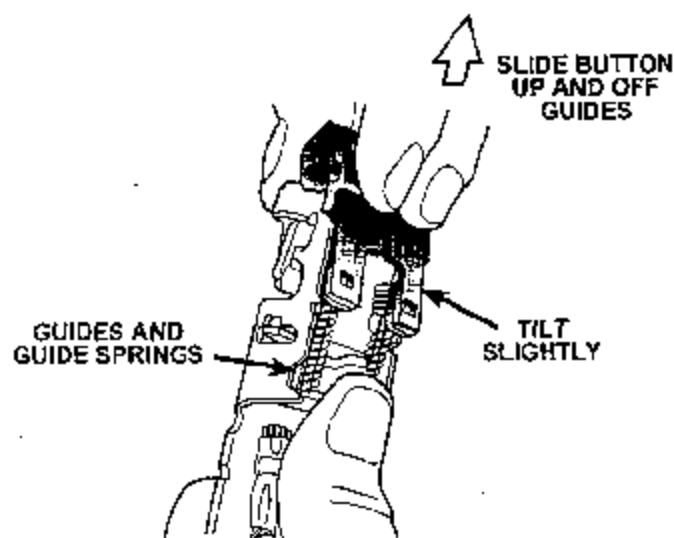

FIGURE 5
10. Tilt the lower part of the release button slightly away from the buckle mechanism and then remove the release button by sliding it off the guides (Figure 5).